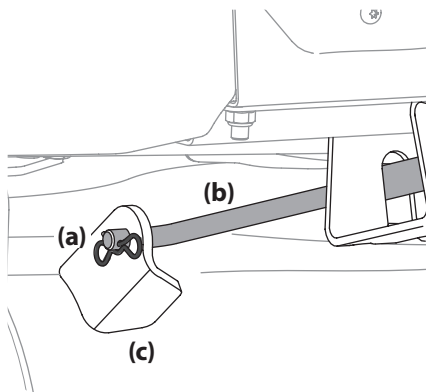

Figure 4-13
6. Pull the cotter pin (a) out of the front deck lift rod (b) securing it to the deck. See Figure 4-13. Slide the deck lift rod out of the front hanger bracket (c).
6. Reinstall the front deck lift rod and secure in place with the cotter pin. Refer to Figure 4-13.